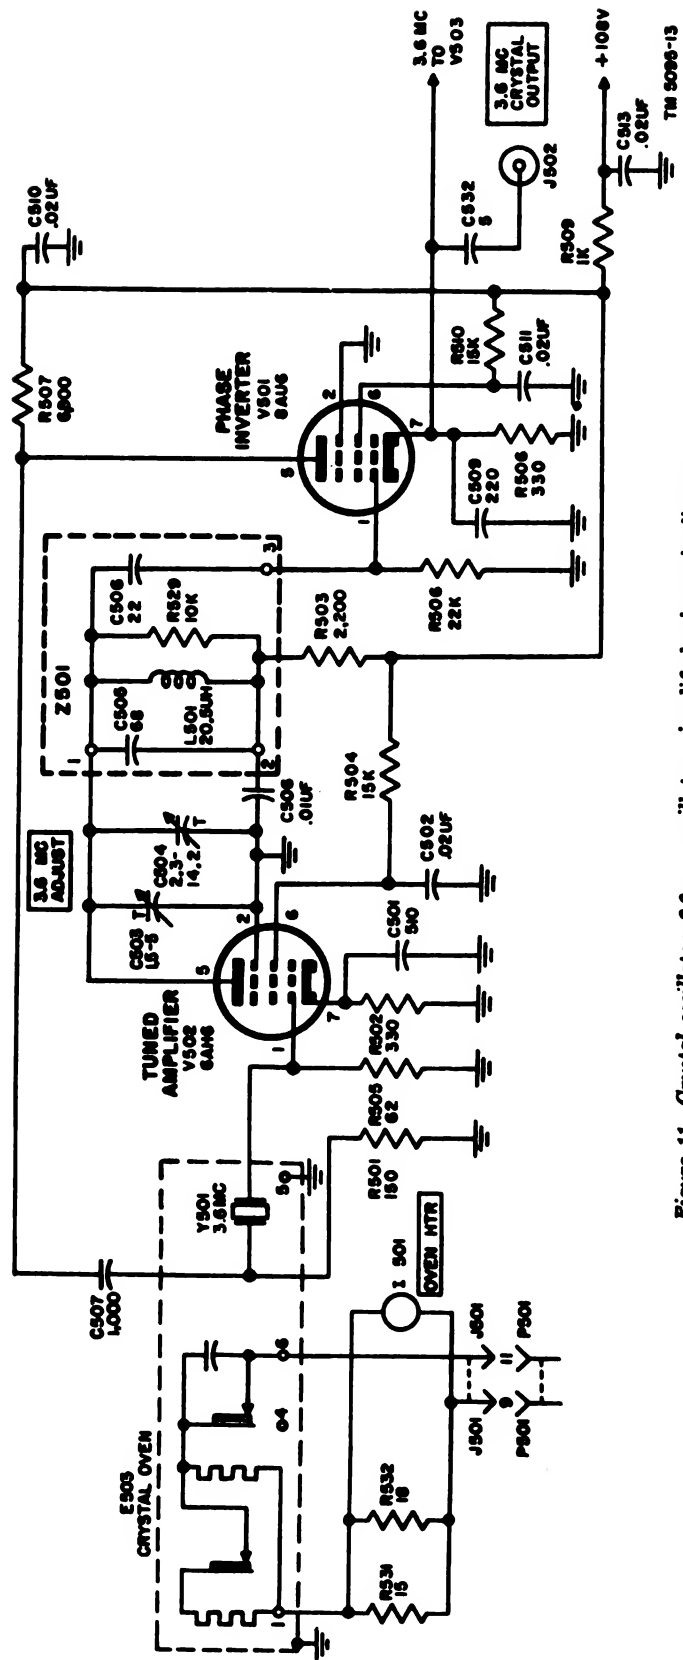

Figure 11. Crystal oscillator, 3.6-mc oscillator, simplified schematic diagram.
a. 3.6-mc Oscillator (fig. 11).
- (1) Crystal Y501 resonates at 3.6 megacycles. Oscillation is sustained by the positive feedback from the plate of phase inverter V501. Resistor R505 provides the dc return for the amplifier grid. The output of V502 is taken across the tuned plate load